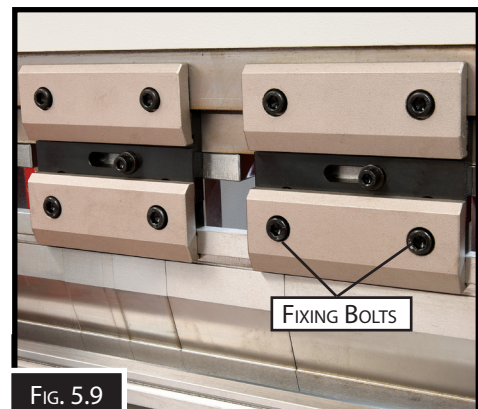
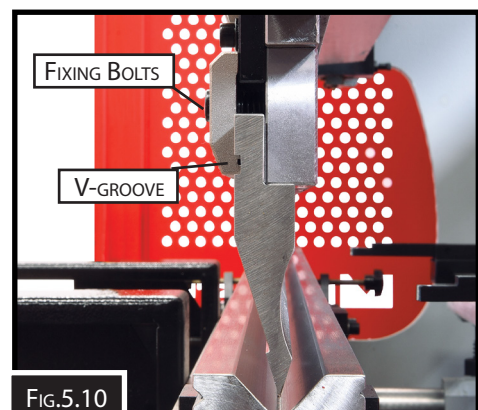

FIG. 5.9
FIG.5.10
1. Loosen the fixing bolts of the punch clamping plate or plates. (Fig.5.9) The punch drops onto the V-groove of the die. (Fig.5.10)
1. Slide the punch into the V-groove of the die as shown. (Fig.5.9)